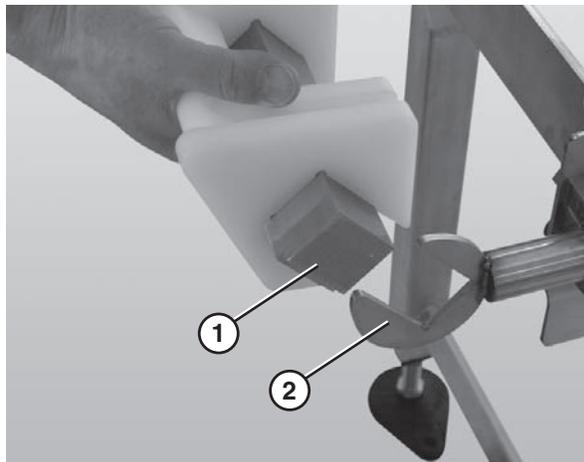

Figure 22
4. Attach the nose bar transfer post (Figure 22, item 1) to the nose bar idler shaft hands (Figure 22, item 2).